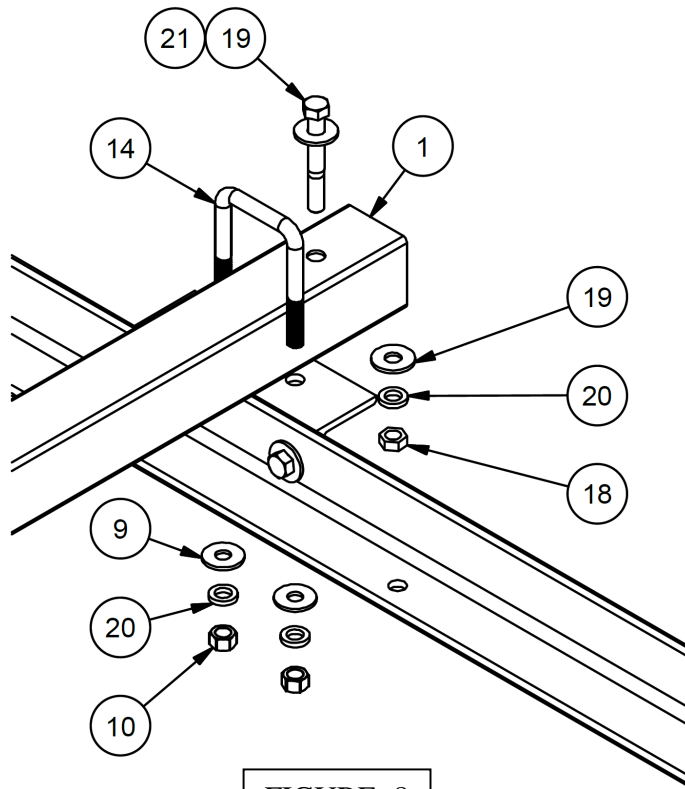

FIGURE: 8
- 4) Attach the tow tongue (1) to the two mounting brackets using the hardware shown in Figure 8.
- 5) If being installed on a 21 ft bleacher, with four legs, install the spreader bar (6) on the second and third legs. Locate the mounting brackets and spreader bar to either side of the tow tongue.